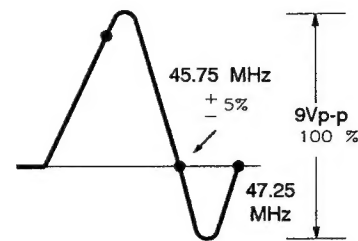

Fig.5
2. Adjust T301 so that picture carrier (45.75 MHz) is centered as in Fig.5.